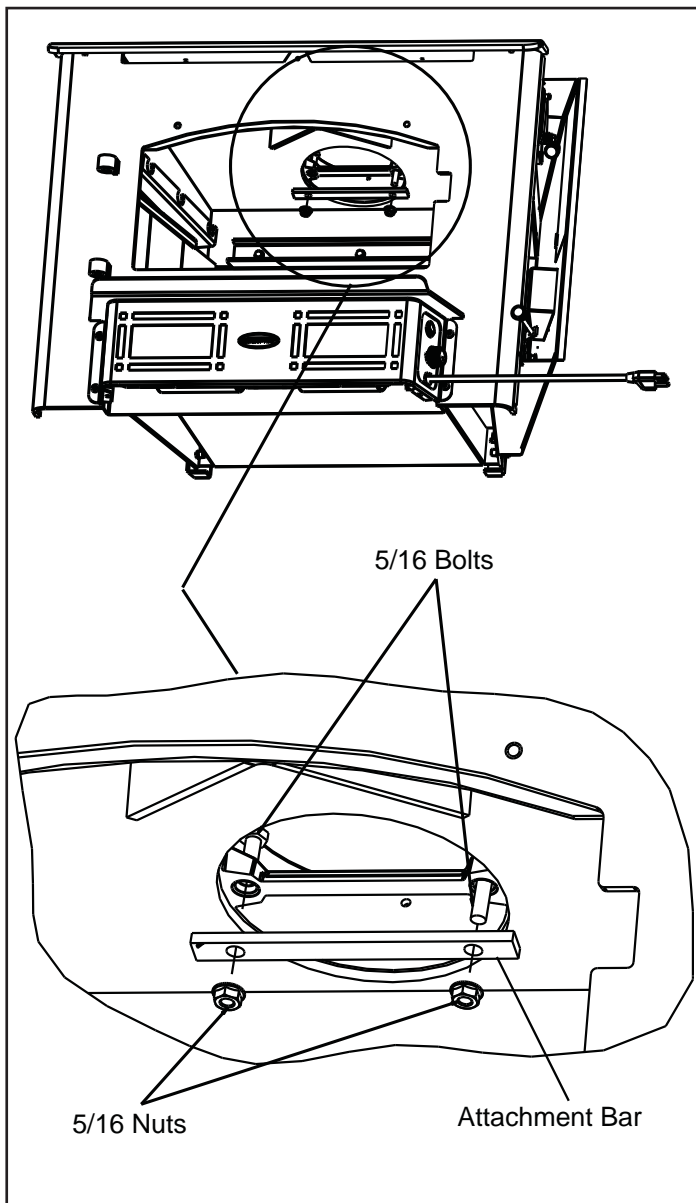

Figure 21.1
1. Once you have the appliance in place and secured, reach up through the flue opening and grab the attachment bar and pull down inside flue opening. **Figure 21.1.**